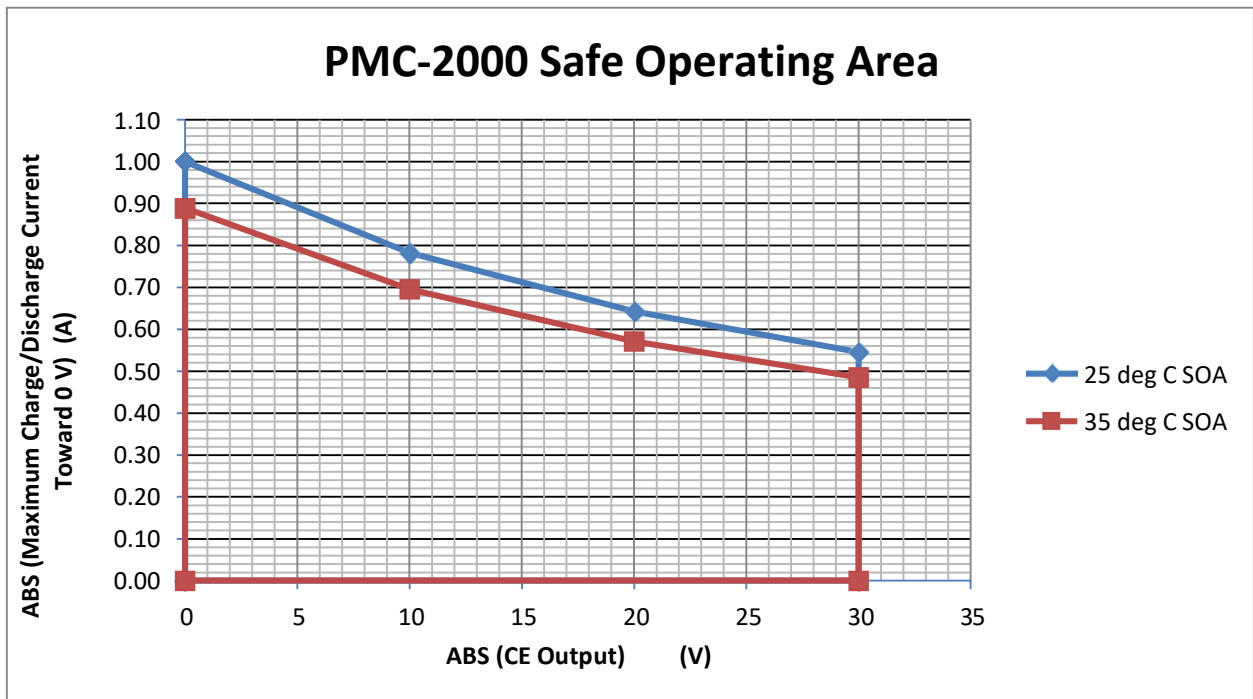

Figure 3. Safe Operating Area for PMC-2000 on Energy Storage Devices
If any resistor is connected between the Counter Electrode and the Working Electrode, then the maximum current is 1.00 Amp at 25 °C and 0.90 Amp if operating at 35 °C. Figure 3 does not apply in this case.
-A battery that is at 12 V, with the Counter Electrode at the (+) battery terminal and the Working Electrode at the (-) terminal. The maximum current must be read off of Figure 3. The graph indicates that for 12 V, 0.76 Amps is available for moving the battery voltage towards 0 V (discharge). To move the battery voltage the other way, greater than 12 V (charging), the graph does not apply, and a full 1 A is available at 25 °C and 0.9 A at 25 °C.